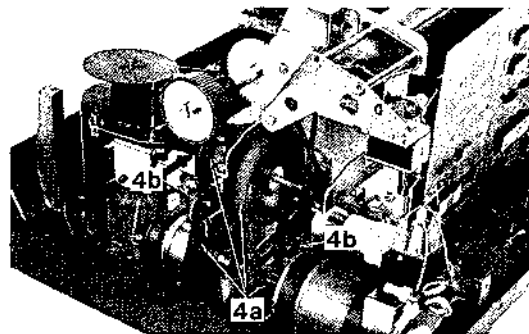

Figure 4. DRIVE ASSEMBLY
- b) Oil felt tensioner washers. (See Figure 4)